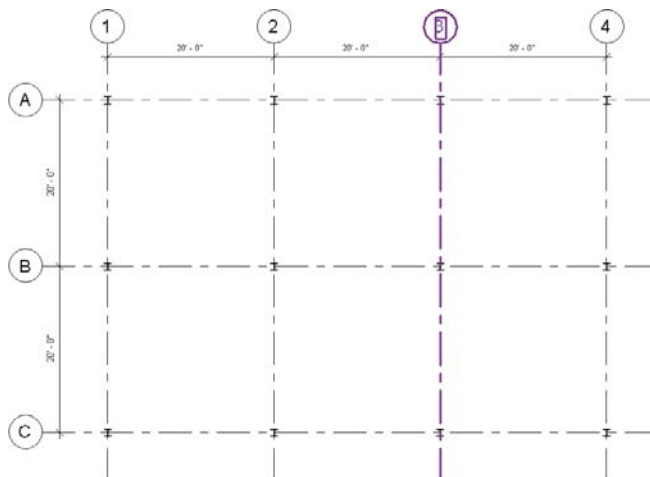

Figure 3.40
6. On the Modify | Place Structural Column's Multiple panel, click Finish. The columns are automatically placed at every intersection of the selected grid lines (Figure 3.40).